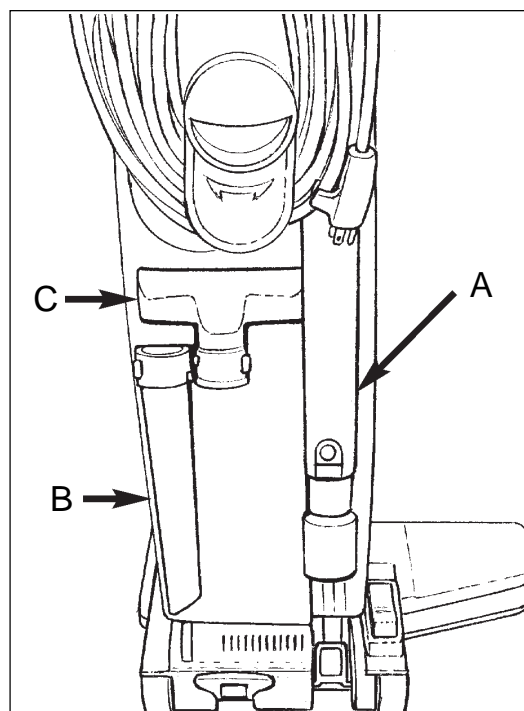

Figure 6
5. Install the wand assembly in the right rear canister housing (see figure 6, item A).
8. Snap the crevice (B) and upholstery (C) tools into the tool retainers on rear of canister housing (see figure 6).